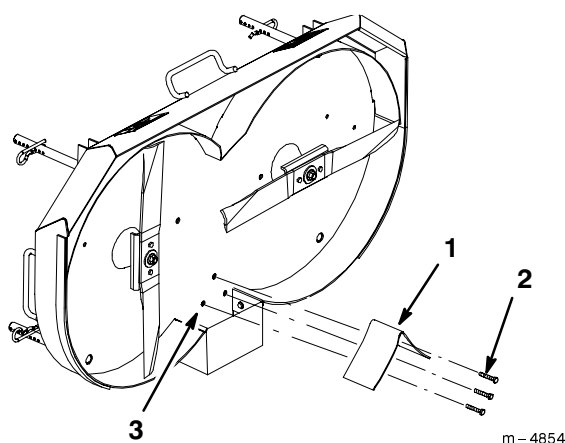

Figure 38
3. Remove screws that are installed into deck for securing mulching baffle (Fig. 38).
4. Install baffle using hardware that was removed. (Fig. 38).
2. Remove capscrews and mulching baffle from the mower (Fig. 38).